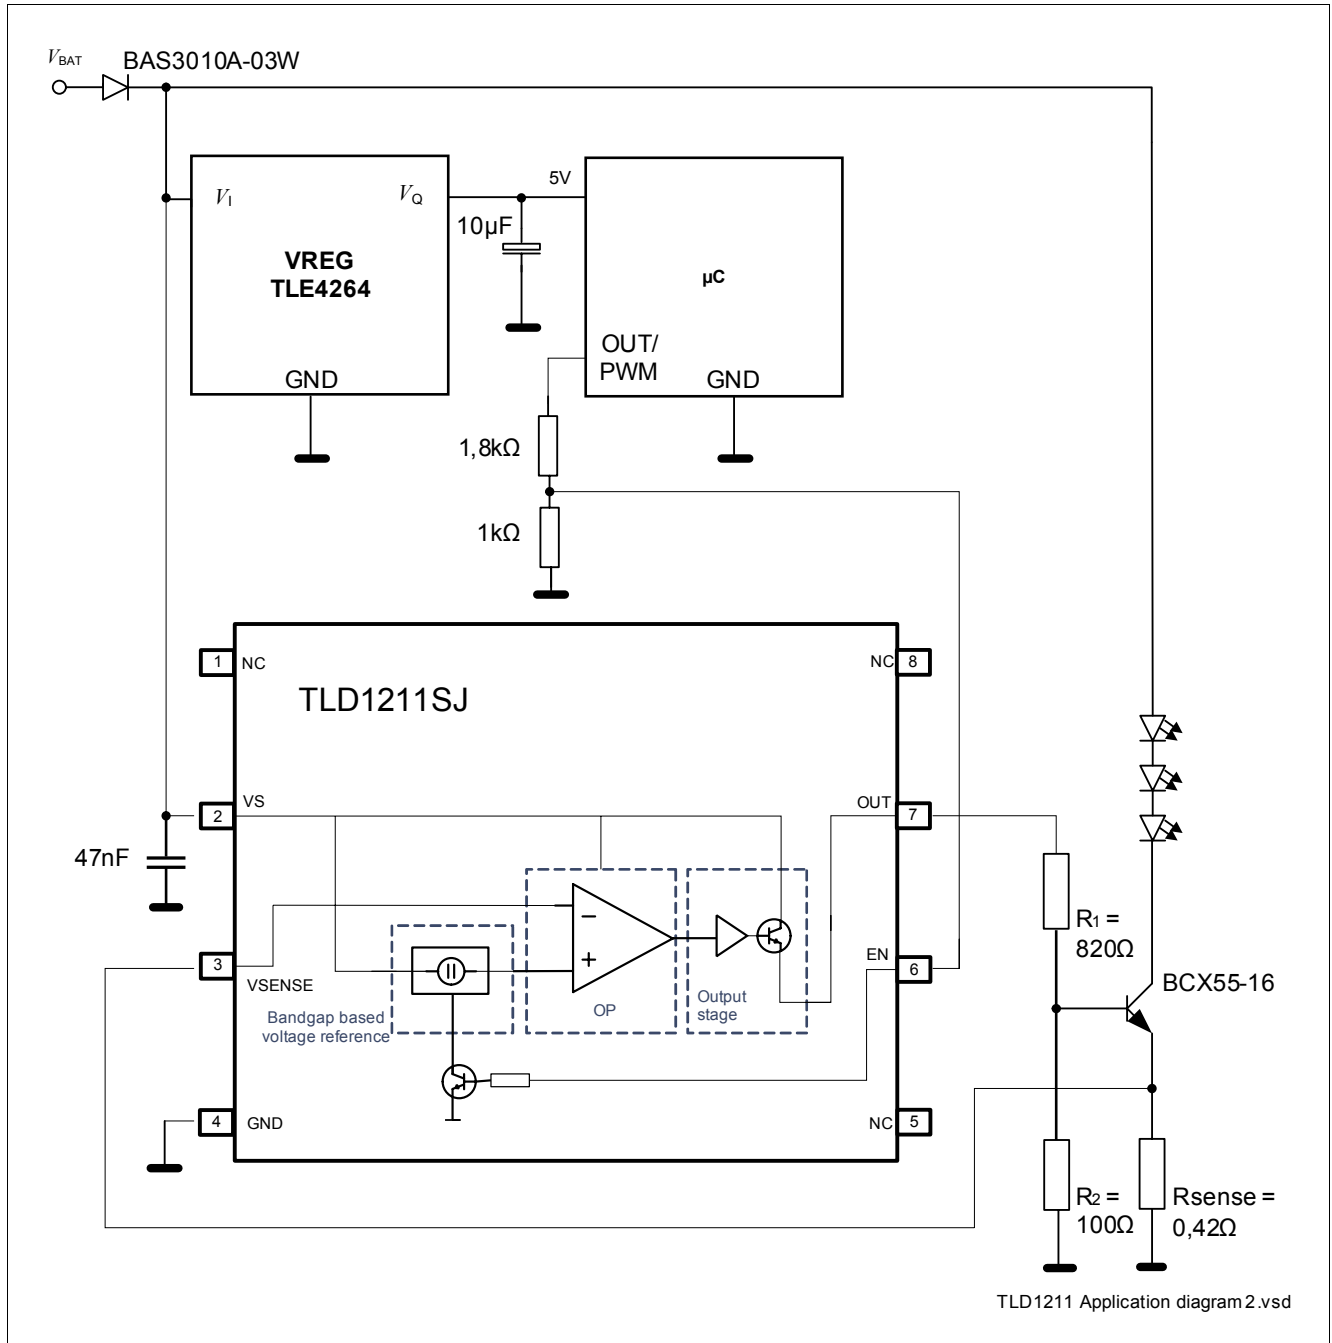

Figure 16 Application Information with External Output Stage
| 4.3.13 | High Level voltage range | $V_{EN,ON}$ | 1 | – | 5.5 | V | Use resistors at pin to be CMOS/TTL compatible; See Figure 16 |
| 4.3.14 | Low Level voltage range | $V_{EN,OFF}$ | -0.3 | – | 0.3 | V | Use resistors at pin to be CMOS/TTL compatible; See Figure 16 |
2) When using an external Boost transistor this time is reduced (See also Figure 16)